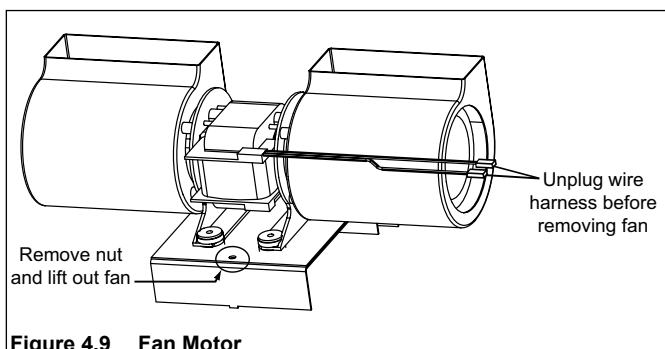

Figure 4.9 Fan Motor
2. Lift fan from locating pins and remove. Repeat for second fan if necessary. See Figure 4.9.